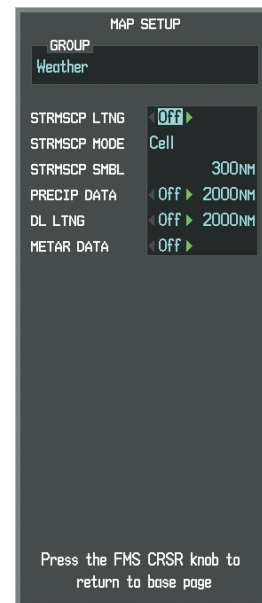

Figure 6-63 Navigation Map Page Setup Menu, Weather Group
- 5) Turn the large **FMS** Knob or press the **ENT** Key to scroll through product selections (Figure 6-63).